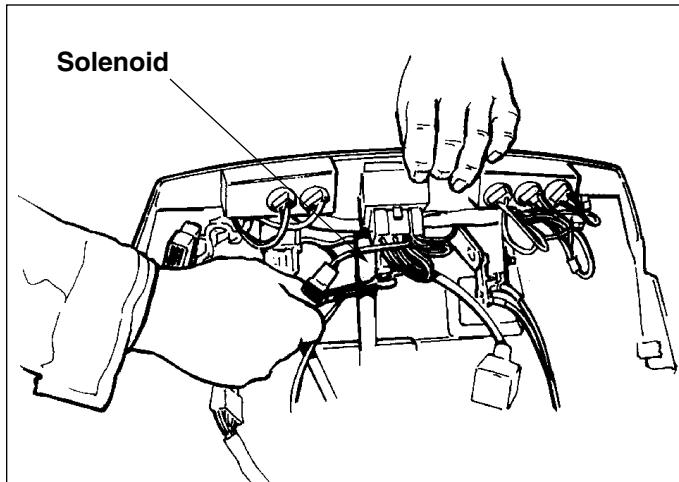

Figure D-10. Disconnect Starter Cable At Solenoid
10. Disconnect the starter cable from the solenoid using a 1/2" box wrench. Temporarily reinstall the hex nut and lockwasher on the threaded solenoid post to prevent parts loss during service (Figure D-10).